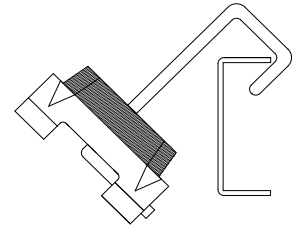

Figure 1
- To attach **GenieClip C3** to the cold-rolled channel first hook the **GenieClip C3** over the cold-rolled channel as shown in **Fig. 1**.